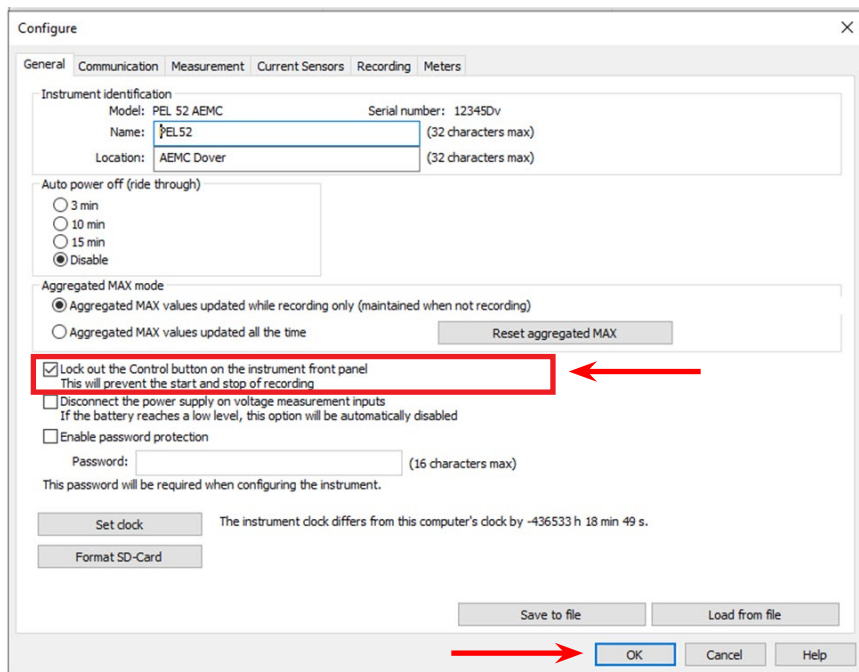

Figure 30-2
7. Deselect the **Lockout the Control button on the instrument front panel** option (highlighted in red below in Figure 30-2) by clicking on the checkmarked box.